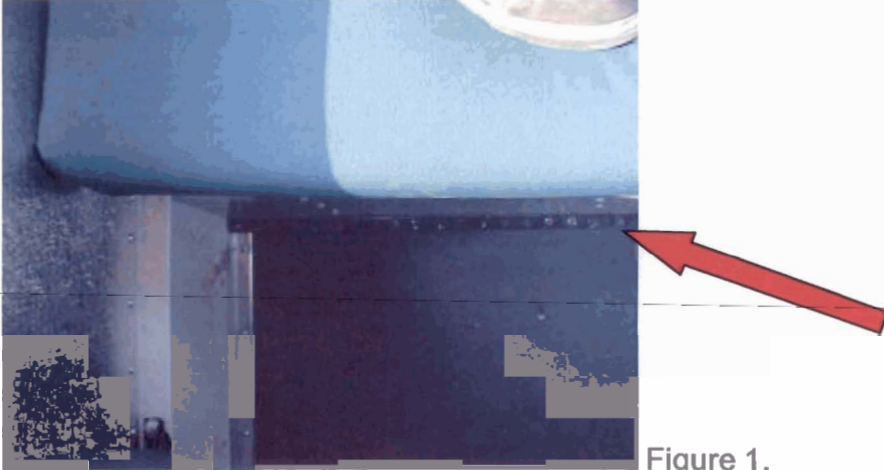

Figure 1.
4. Place a full length retaining bar (P/N 2592739C1) on the floor along the right hand side of the davenport. The bar must be placed against the outer wall and as close to the vertical face of the davenport closeout as possible. This is to ensure that the screws pass through the retaining bar and davenport closeout flange as well as the substructure under the floor. See Figure 1.